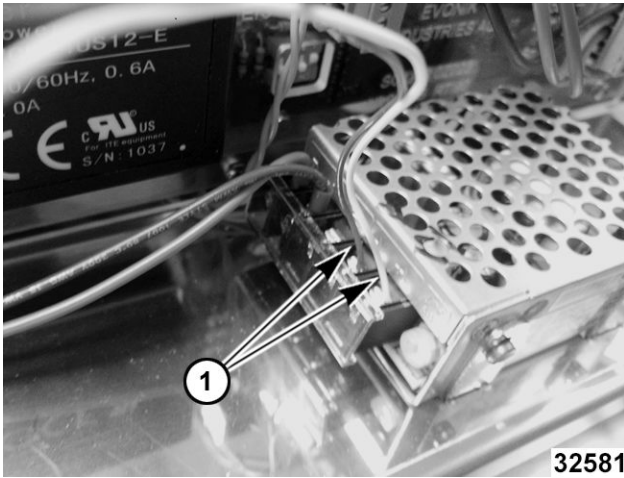

Fig. 49
7. Note and disconnect LED wiring (1, Fig. 49) and remove from lighting transformer.